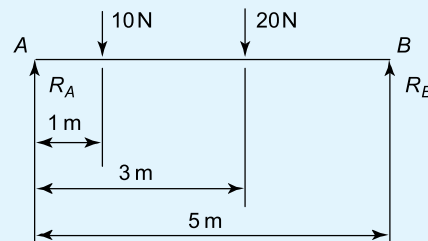

Figure 6.34
3. With reference to Figure 6.34, the clockwise moment about A is:
4. The force acting at B (i.e. R_B) in Figure 6.34 is:
5. The force acting at A (i.e. R_A) in Figure 6.34 is: